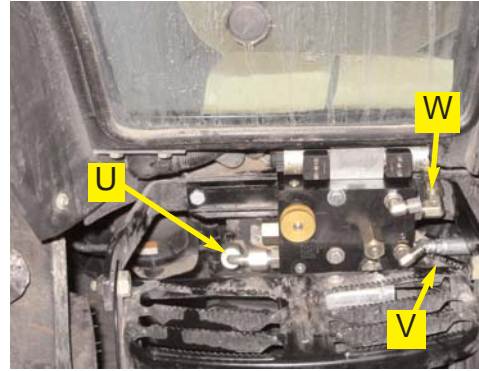
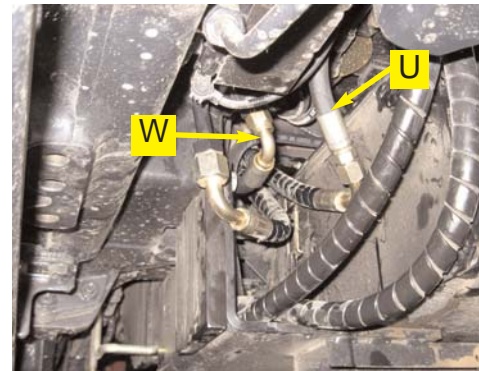

Figure 4a. Installed pressure, excess flow and tank hoses at the automated steering block.
Figure 4b. Installed pressure and excess flow hoses.
- a. Connect the pressure hoses (**U**) from the **P** port on the automated steering block to the rubber return line disconnected in step **3b**. Connect the excess flow hose (**W**) from the **EF** port on the automated steering block to the steel line disconnected in step **3b**. (Figure 4a. and Figure 4b.)
- b. Connect the tank hose (**V**) from the **T** port on the automated steering block to the run tee fitting (**T**) installed in step **3d**. (Figure 4a. and 4c.)